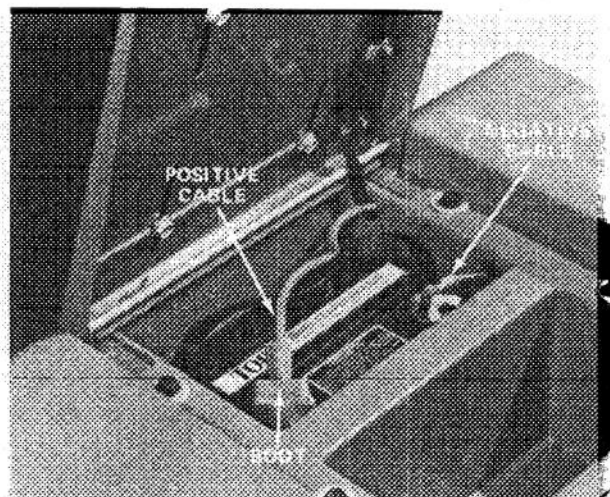

Figure 12
9. Install the positive cable (rubber boot over end) to the positive (+) terminal and the negative cable (black) to the negative (-) terminal of the battery and secure with capscrews and wing nuts. Slide the rubber boot over the positive terminal to prevent possible short-out from occurring (Fig. 12).